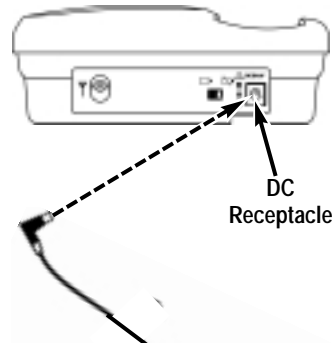

Figure 3 – Wall 6 VDC, 3-wire power supply DC connection.
- 1) Connect the DC barrel connector of the 6 VDC Power Supply to the rear panel receptacle of the Phonecell SX4D - **see Figure 3.**